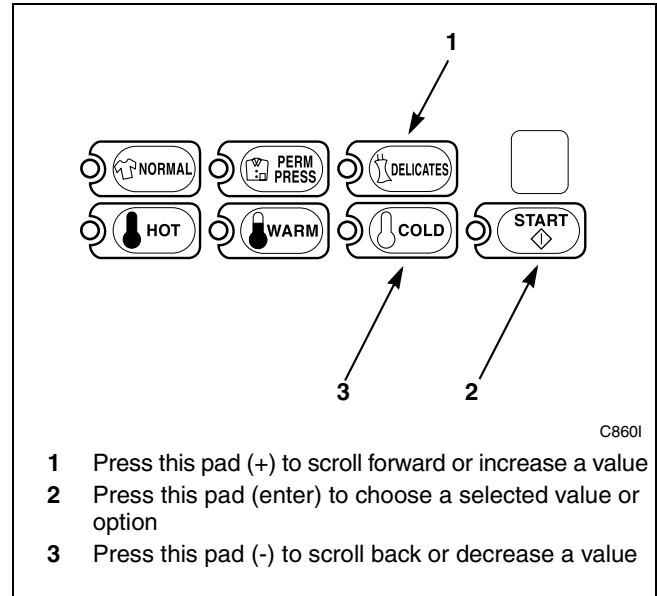

Figure 182
5. Press the DELICATES (+) or the COLD (-) keypad to increase or decrease the current number of minutes displayed in the VFD to the desired number of minutes. Refer to *Figure 182*.
**NOTE: The Special Cycle Extra Wash Time can be set from zero (0) to 15 minutes.**